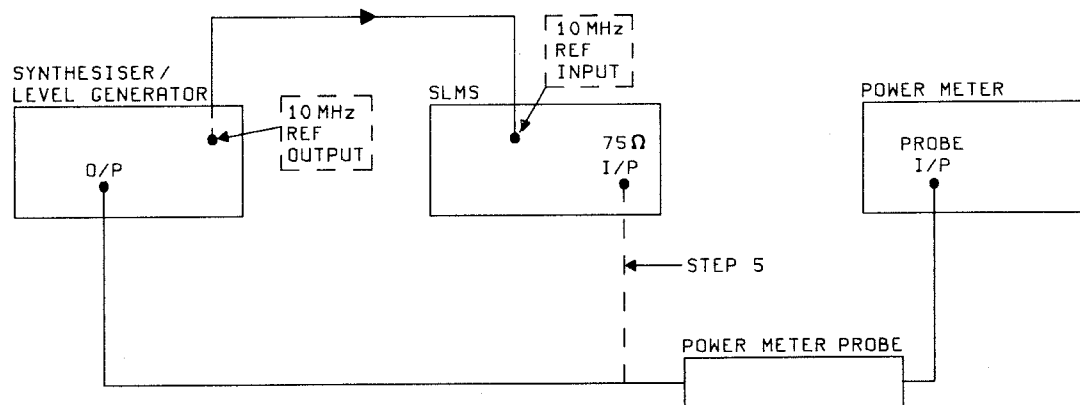

Figure 5-2 0dBm Level Adjustment Test Set-up
A stable 1MHz reference source is formed as shown in Figure 5-2. The IF signal level is checked at the output of the 2nd MIXER and adjusted as necessary. The calibration signal at the A4 Assembly is adjusted against the 0dBm reference. The IF RMS to DC Log Converter on Assembly A21 is adjusted to set a precise A/D output on AVE 2 (0.01dB resolution), AVE 1 (0.1dB resolution) and AVE 0 (1dB resolution) with the Input at 1MHz. Finally the SLMS frequency response is checked and adjusted as required.
1. Set up the equipment as shown in Figure 5-2.